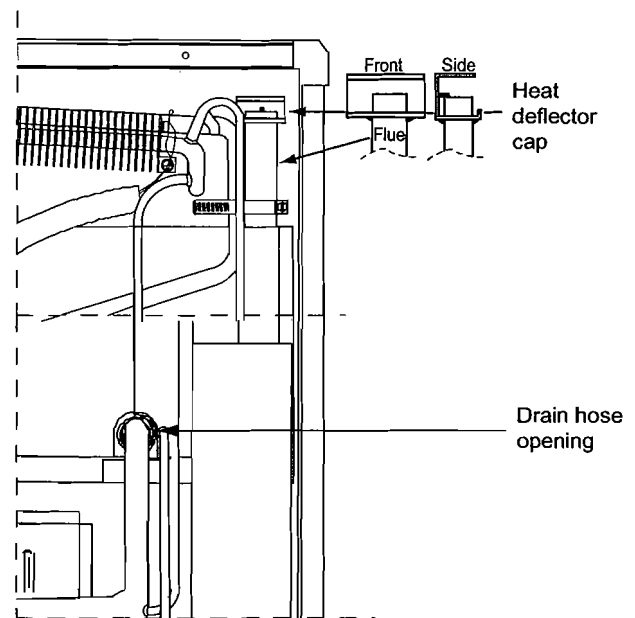

Figure 15. Heat deflector cap location and position.
10. Make sure heat deflector cap is firmly on the flue tube. The cap's metal tang should contact the flue tube opening, and the solid back side facing the refrigerator cabinet. See Figure 15.